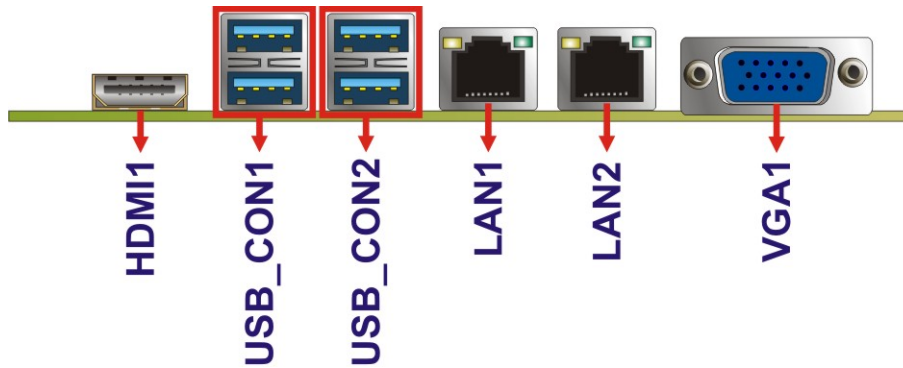

Figure 3-23: External Interface Connectors
- CN Location:** See Figure 3-23
- CN Location:** See **Figure 3-23**